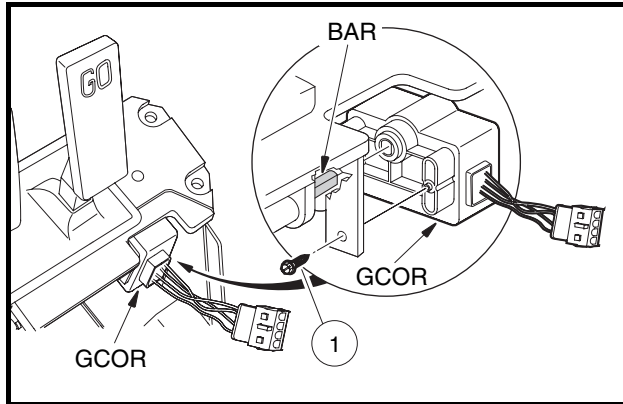

Figure 12-17 GCOR
2. Remove two screws (1) that secure the GCOR to the pedal group (**Figure 12-17, Page 12-16**).
2. Secure the GCOR with two screws (1) (**Figure 12-17, Page 12-16**). Tighten screws to 23 in-lb (2.6 N·m).